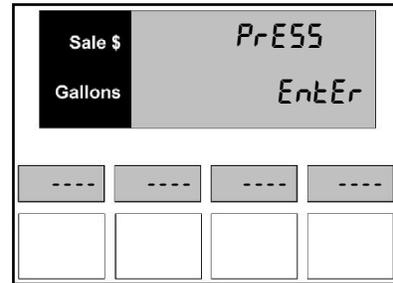

Figure D.1 – Display Segment
- The main sales display window will say, **PRESS ENTER** as shown in *Figure D.1*. Press the **Enter** button to begin.